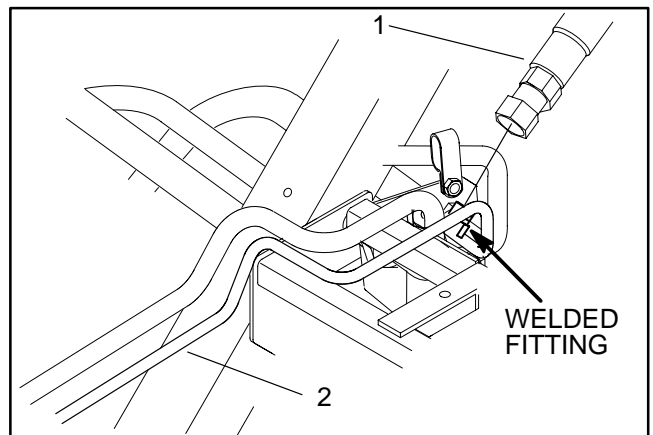

Figure 31
D. Disconnect hydraulic hose from welded fitting on the tube leading into rear bulkhead (Fig. 31).